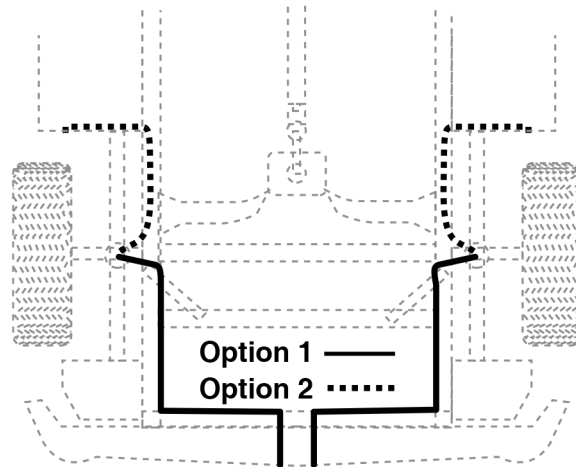

fig. 5
- A. Select a location for the inflation valves in the rear bumper area or rocker panel flange insuring that each valve will be protected and accessible with an air hose (Figure 5).
- C. Route air line from inflation valve location along frame rail to bellows. Route the air line so that it will be protected from the direct heat from the muffler or tailpipe and kept away from sharp edges. The air line should not be bent or curved sharply. (Figure 5). Attach air line to chassis with the provided plastic straps.